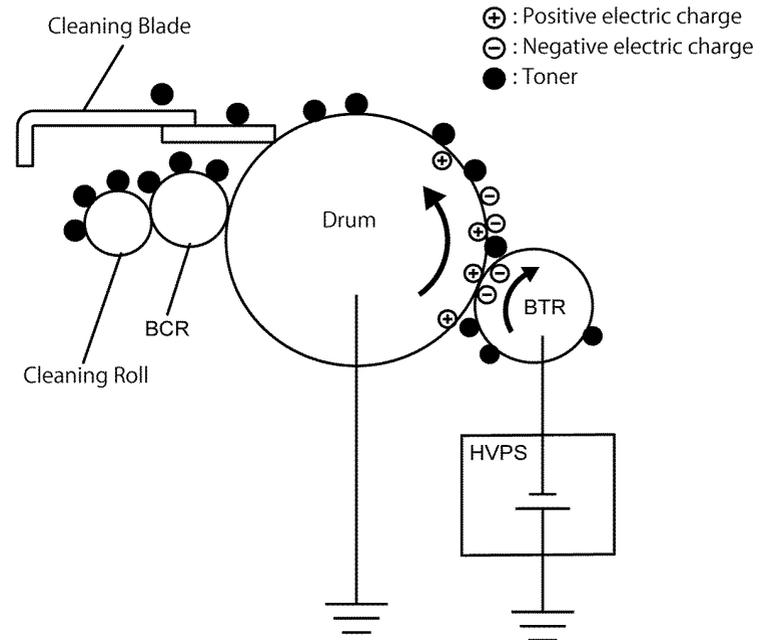

Figure 11 Cleaning
- BTR cleaning. The excess toner deposited on the BTR during the transfer process contaminates the backside of the subsequent sheets. To prevent this, the HVPS sends negative high voltage (contrary to the transfer process) to the BTR to reverse-transfer the toner from the BTR to the drum. The cleaning blade in contact with the drum scrapes off the reverse-transferred toner from the drum, and transports it to the waste toner collecting area. Refer to Figure 11.